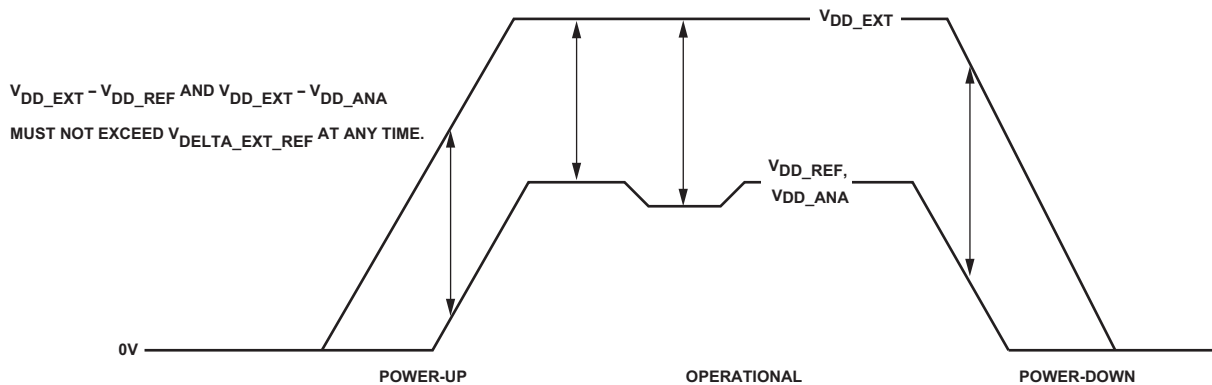

Figure 11. Power-Up and Power-Down Voltage Delta Requirement
1. The $V_{\Delta_EXT_REF}$ specification must be met at all times, including during power-up reset and when powering down the device (Figure 11).